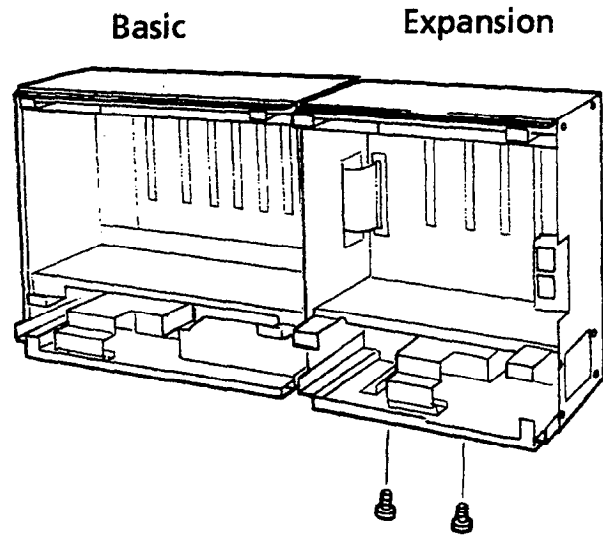

Figure 3-17 Attaching the Level II Expansion KSU to the Wall Mounting Bracket
- Using the provided bolts, attach the ESF-SE-10 KSU to the expansion wall mounting bracket from the bottom. Refer to Figure 3-17 - Attaching the Level II Expansion KSU to the Wall Mounting Bracket.